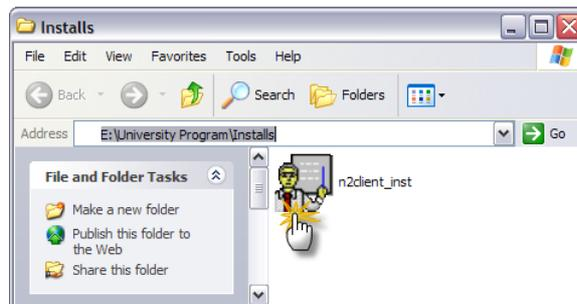

Figure 1: Install File on DE2 CD.
1. Use **Microsoft Windows Explorer** to open the folder “University Program/Installs” from the DE2 CD-ROM. As shown in Figure 1, the folder will contain a single executable file named *n2client_inst*.